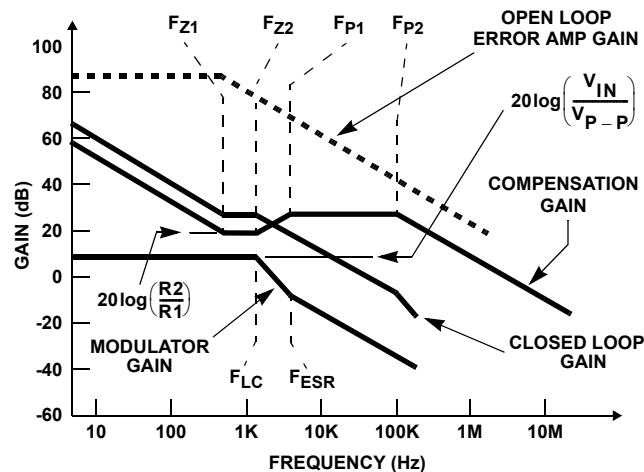

FIGURE 12. ASYMPTOTIC BODE PLOT OF CONVERTER GAIN
Figure 12 shows an asymptotic plot of the DC-DC converter's gain vs. frequency. The actual Modulator Gain has a high gain peak dependent on the quality factor (Q) of the output filter, which is not shown in Figure 12. Using the above guidelines should yield a Compensation Gain similar to the curve plotted. The open loop error amplifier gain bounds the compensation gain. Check the compensation gain at  $F_{P2}$  with the capabilities of the error amplifier. The Closed Loop Gain is constructed on the log-log graph of Figure 12 by adding the Modulator Gain (in dB) to the Compensation Gain (in dB). This is equivalent to multiplying the modulator transfer function to the compensation transfer function and plotting the gain.